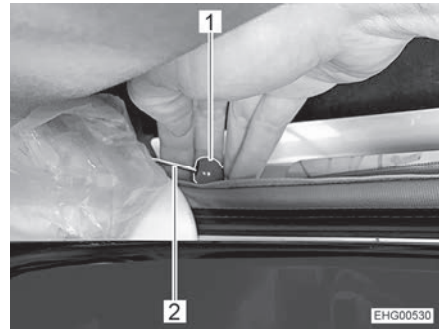

Fig. 60 Emergency release
- Pull the red button (Fig. 60,1) of the cable control (Fig. 60,2) on both sides.